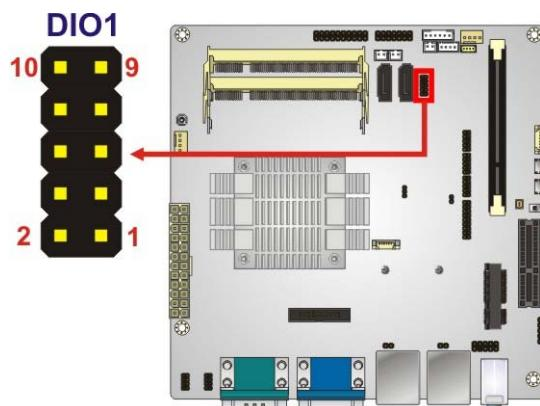

Figure 3-6: Digital I/O Connector Location
**CN Location:** See Figure 3-6